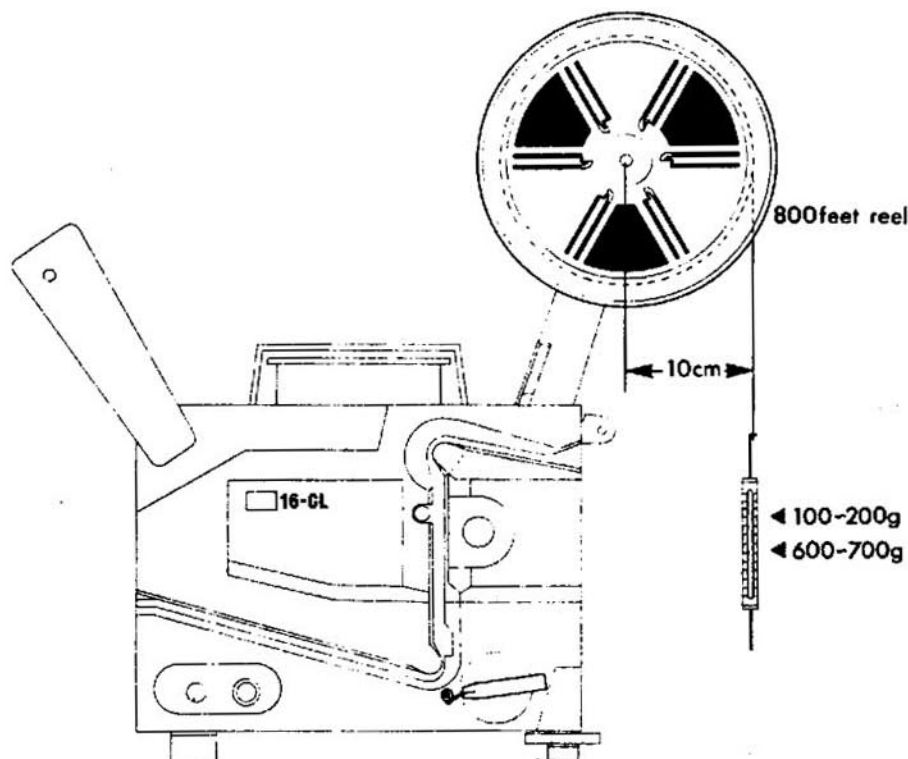

Fig. 20
- (1) As shown in Fig. 20, wind film on attached Reel until the diameter of wound film comes to 20cm.
- (2) Set Main Knob at "⊙" position and measure the tension as illustrated in Fig. 20.
- \* Change the pressure of Fig. 21-3 by turning Fig. 21-2 in order to adjust the tension to 600-700gr. (Refer to Fig. 20)